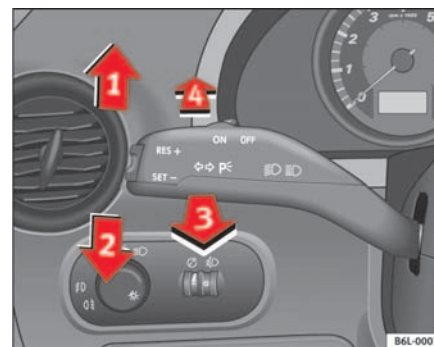

Fig. 60 Turn signal and main beam headlight lever
- Move the lever all the way up \Rightarrow fig. 60 ① to indicate **right**, and all the way down ② to indicate **left**.
- Press the lever forward \Rightarrow page 91, fig. 60  to switch on the main beams.